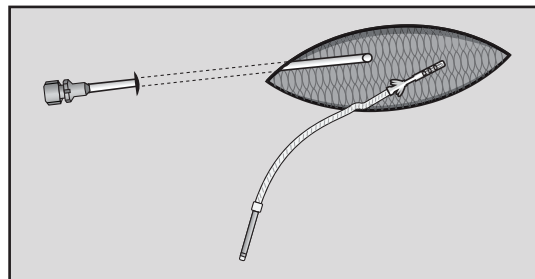

Figure 32: Tunneling Needle Ready for StimRouter Lead Insertion
9. Pass the Tunneling Needle over the Stylet starting from remote incision location toward the wound until it can be seen in the wound. Remove the Tunneling Needle Stylet leaving the Tunneling Needle in place. See Figure 32.